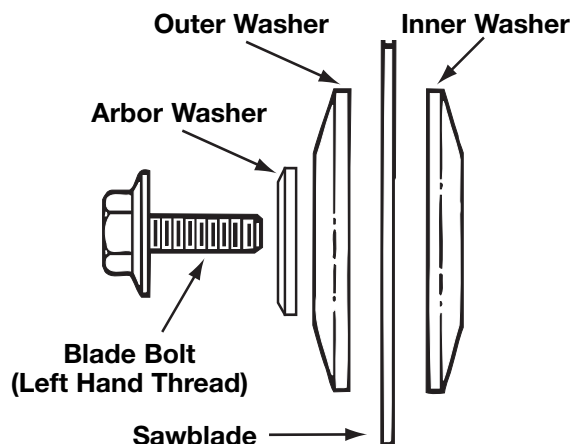

Figure 2. Blade Hardware
5. Remove the blade bolt, arbor washer, outer washer and the blade. Inner washer does not need to be removed (Figure 2).
7. Replace the outer washer, arbor washer, and tighten blade bolt finger tight counter-clockwise (see Figure 2). Press the arbor lock and tighten blade bolt securely using blade wrench, but do not overtighten.